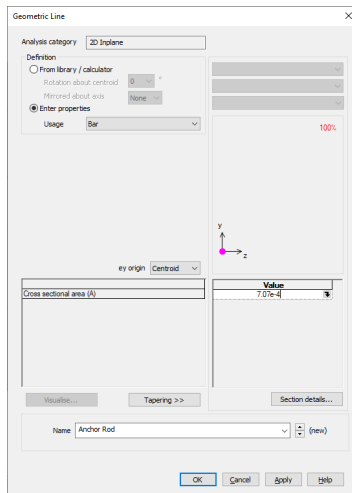

Figure 17: Anchor Rod geometric properties
- Using **Attributes > Geometry > Line...** Select **Bar** from the **Usage** dropdown list. Enter 7.07×10^{-4} for the area and **Anchor Rod** in the name field. Then click **Apply** (figure 17).